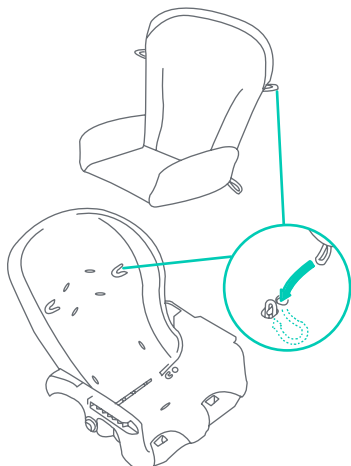

Fig. 21
21) • Loop the flap on the back of the pad over the top of the Seat Back. Connect the Seat Pad to the Seat Back with the two Elastic Loops. These fit over the Attachment Tabs located near the top harness slots (Fig. 21).